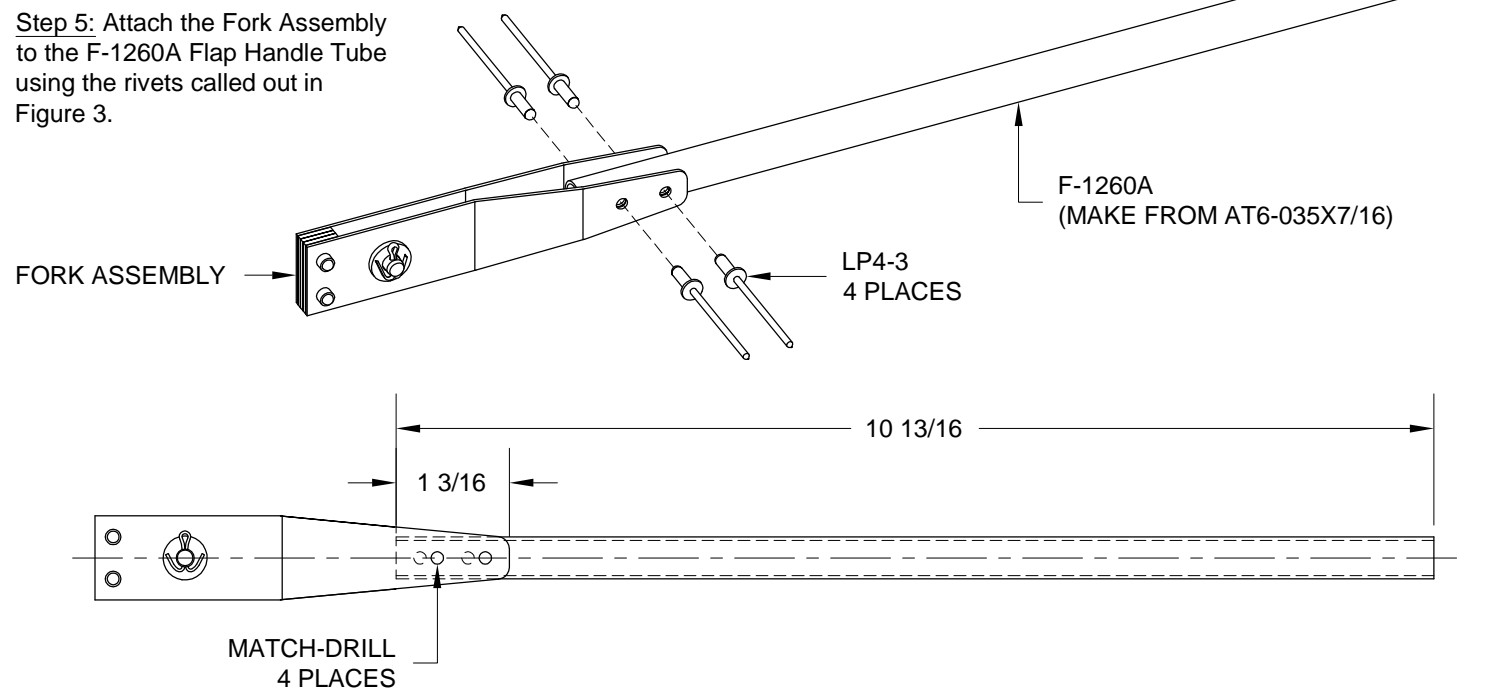

FIGURE 3: ATTACHING THE FORK ASSEMBLY
Step 5: Attach the Fork Assembly to the F-1260A Flap Handle Tube using the rivets called out in Figure 3.